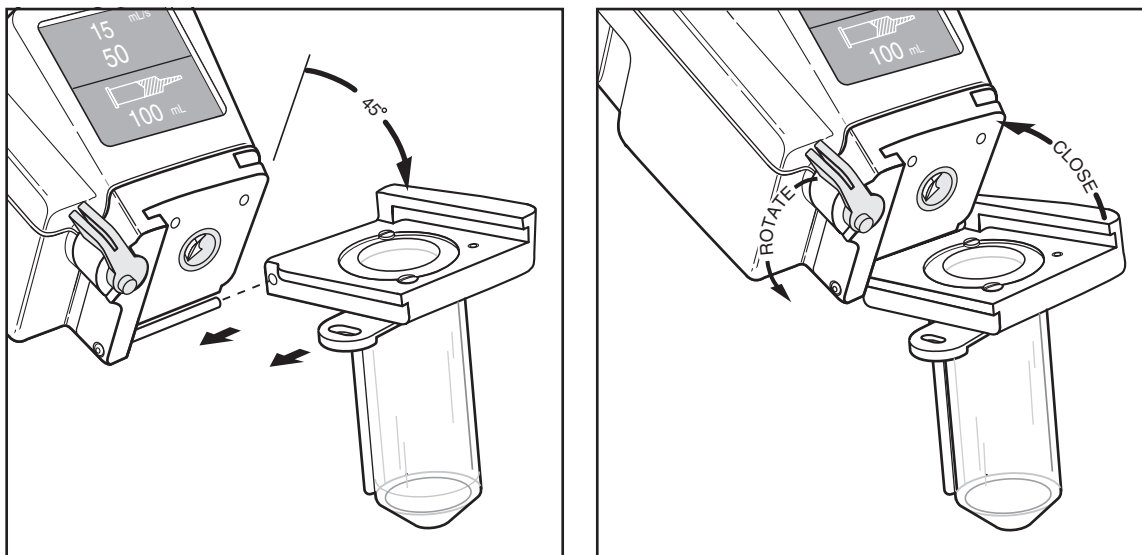

Figure 8-1-1 Installing the Syringe Assembly
2. Remove current syringe holder assembly, if it is still installed. Open syringe holder assembly, pivot 90 degrees in reference to the powerhead and slide the assembly off of the shaft by reversing the installing process in Figure 8-1-1.
4. Install Syringe Holder Assembly with ADAWS by orienting the syringe assembly at a 45° angle to the powerhead as shown in Figure 8-1-1. Slide the assembly onto the exposed shaft as shown.